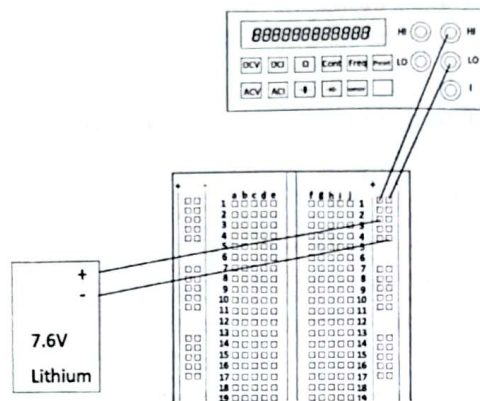

Figure 13: Measuring the open-circuit battery voltage.
1. Change the DDM to DCV mode, and connect it with the battery by the breadboard (see Figure 13), then measure the voltage across the battery when it is open-circuited (not powering any device)? Fill in Table 3